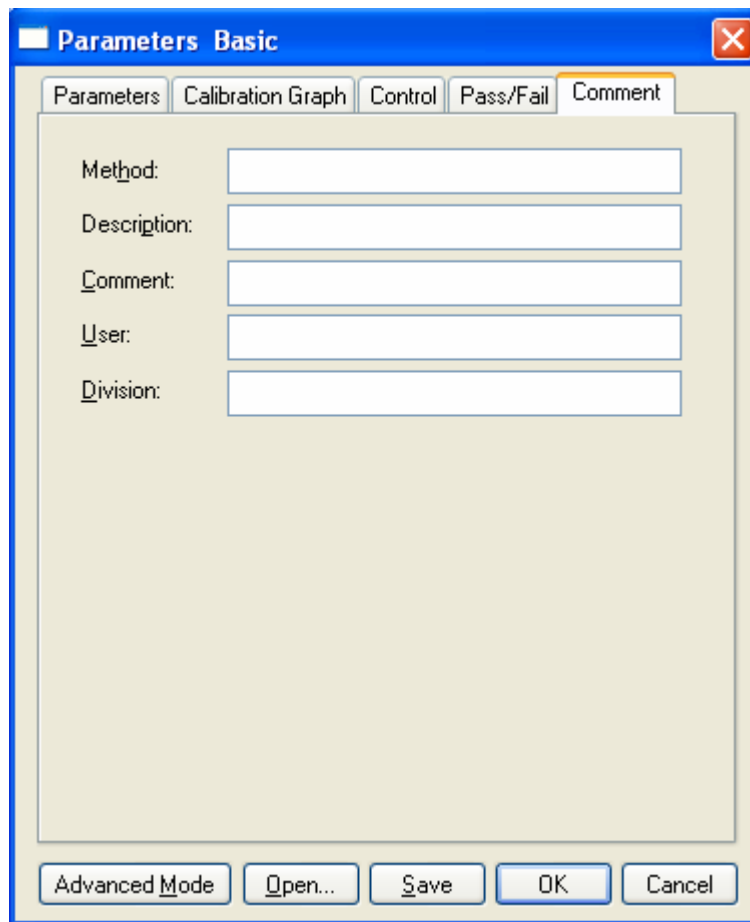

Figure 5.8 [Parameters Basic] Dialog, [Comment] tab
(5) Click on the [Comment] tab (see Fig. 5.8).